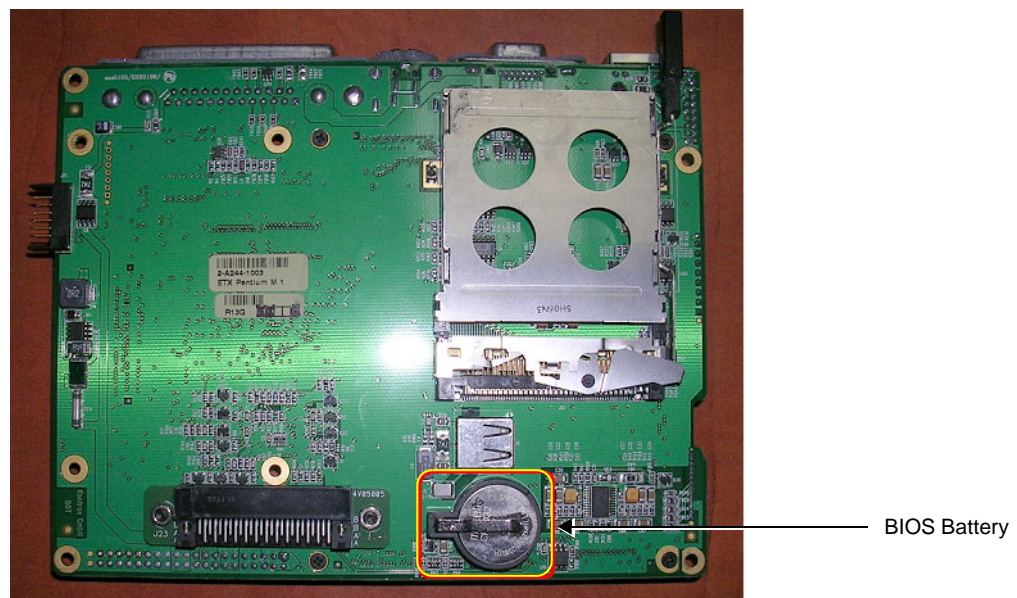

Figure 8-54 BEP - Location of BIOS Battery
- 2) Take out the BIOS battery located on the bottom of the BEP, as shown in Figure 8-54.
- 1) Fit a new BIOS battery in position on the BEP - refer to Figure 8-54.